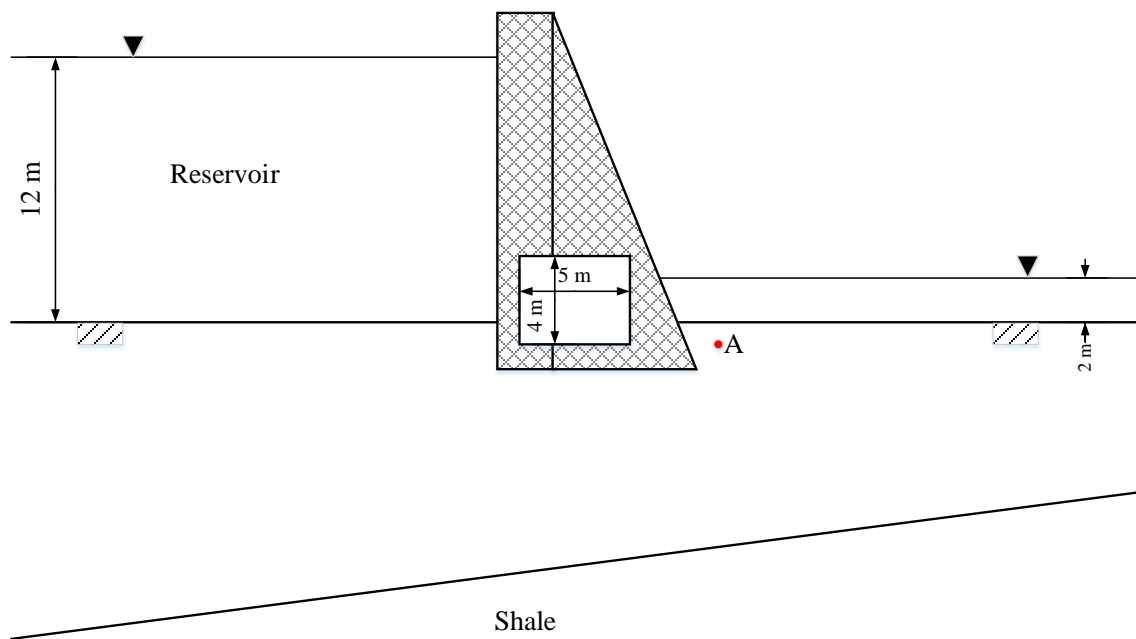

Fig. 2
Supplementary page: one extra copy of Fig. 2 (Question 1)
(c) A rigid, concrete dam 16 m high holds a reservoir of water 12 m deep as shown in Fig. 2. The tailings water depth is 2 m on the downstream side. The dam is founded on the same soil stratum as in part b) but is underlain by an inclined Shale rock as shown in Fig. 2. The concrete dam has an inspection gallery  $5 \text{ m} \times 4 \text{ m}$ . The unit weight of the concrete is  $24 \text{ kN m}^{-3}$  and the saturated unit weight of the soil is  $19.5 \text{ kN m}^{-3}$ . The hydraulic conductivity of the soil is  $2.3 \times 10^{-4} \text{ m s}^{-1}$ .
(i) Draw a 'flow net' at steady state seepage of the problem on the extra copy of Fig. 2 provided. Highlight any limitations of the flow net that you have constructed. You must submit this copy with your script. [20%]
- (iv) Estimate the exit hydraulic gradient at location A marked in Fig. 2 and comment on the stability of the dam. [15%]
Extra copy of Fig. 2